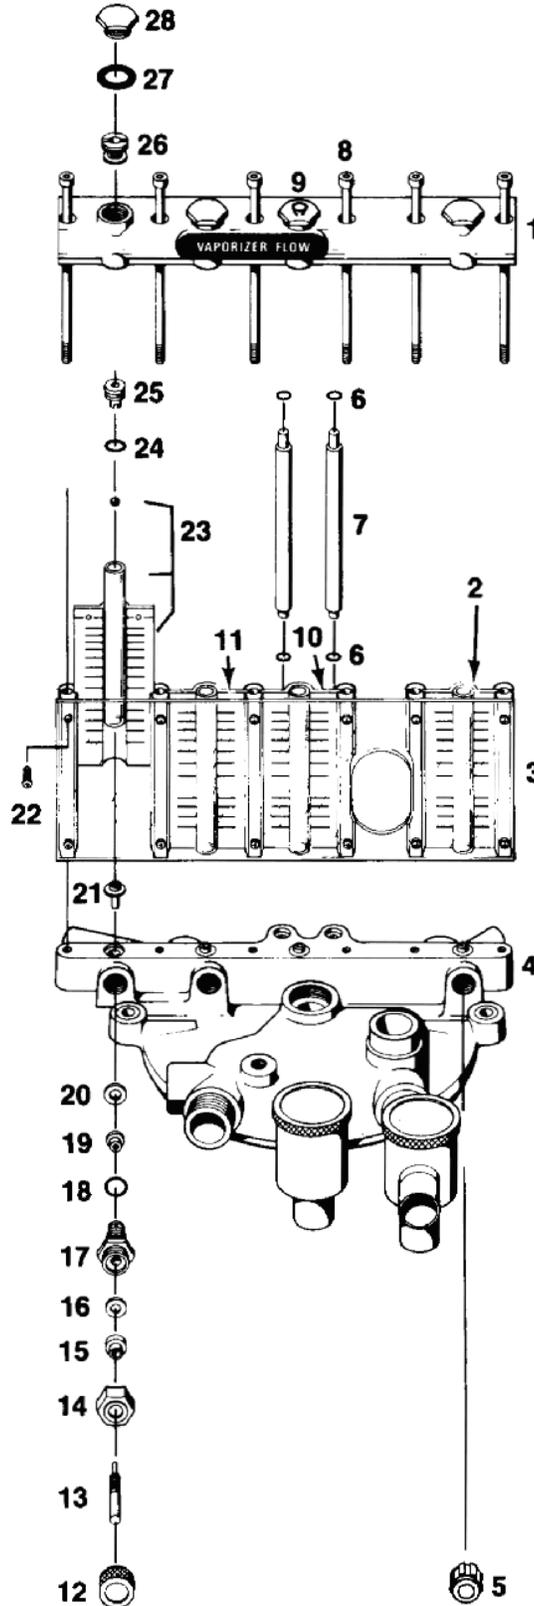

Figure 1-5. Control head-flow meters.
a. **Flow Meters.** Refer to figure 1-5.
(1) As required, clean the transparent flow meter shield with a soft cloth and water.
(2) Avoid using abrasive cleaners.